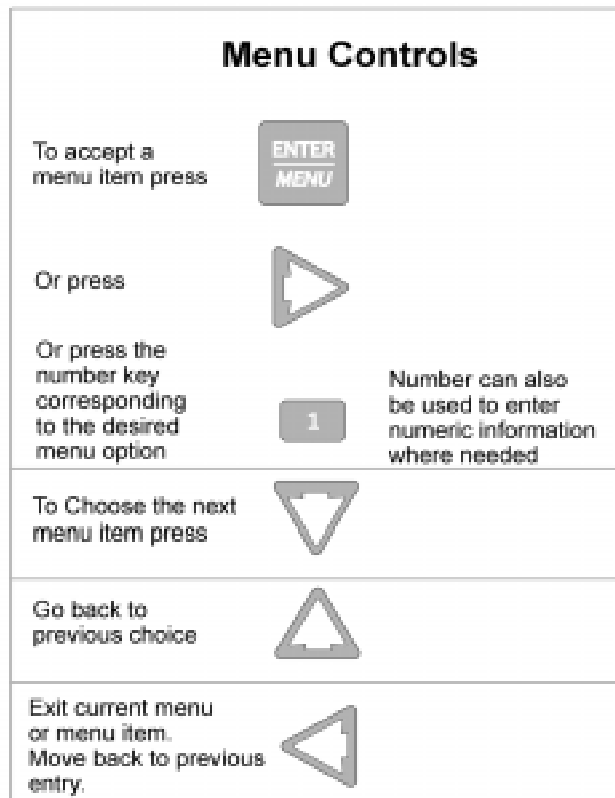

Figure 4-6 Main Menu Controls
2. Choose the desired menu item. (See Figure 4-6.)
Figure 4-6 indicates what keys on the touchpad are used to maneuver through the Main Menu.